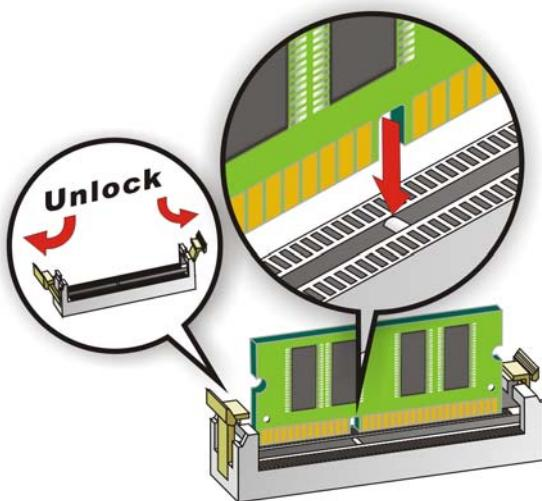

Figure 4-1: SO-DIMM Installation
To install a SO-DIMM, please follow the steps below and refer to **Figure 4-1**.
Step 1: Open the SO-DIMM socket handles. Open the two handles outwards as far as they can. See **Figure 4-1**.
Step 2: Align the SO-DIMM with the socket. Align the SO-DIMM so the notch on the memory lines up with the notch on the memory socket. See **Figure 4-1**.
Step 3: Insert the SO-DIMM. Once aligned, press down until the SO-DIMM is properly seated. Clip the two handles into place. See **Figure 4-1**.